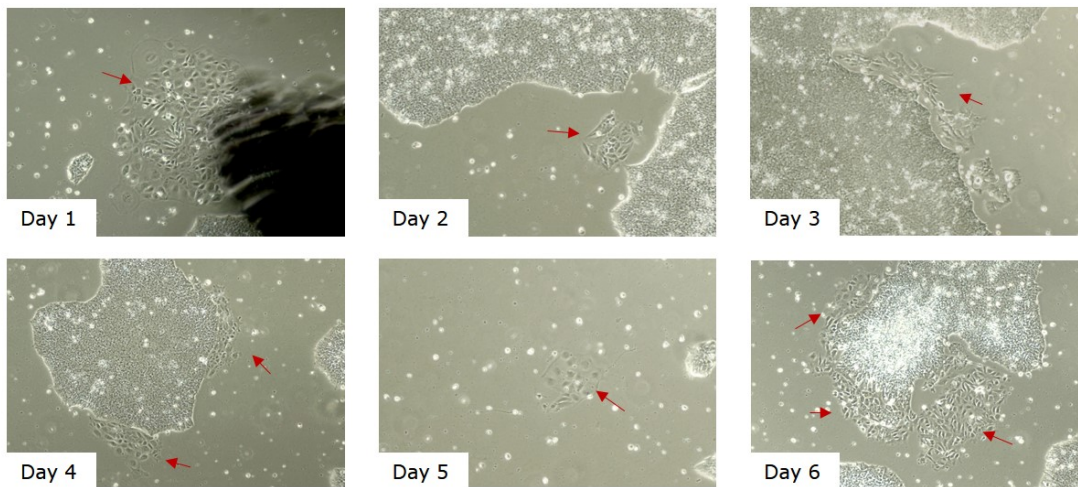

Figure 5. Bright-field phase contrast of NCRM1 cells in mTeSR1 media (10X objective). Red arrows indicate regions of differentiation.
- If regions of differentiation are observed, mark area with fine-point marker on bottom of dish. Remove regions of differentiation by aspiration with a 200- μ L tip while frequently turning the dish to avoid exposing the cells to air. Aspirate media, add 8 mL of fresh media, and incubate cells at 37°C. Regions of differentiation should not exceed 10% of the area of the dish. Examples of regions of differentiation in iPSC cultures are shown in Figure 5.